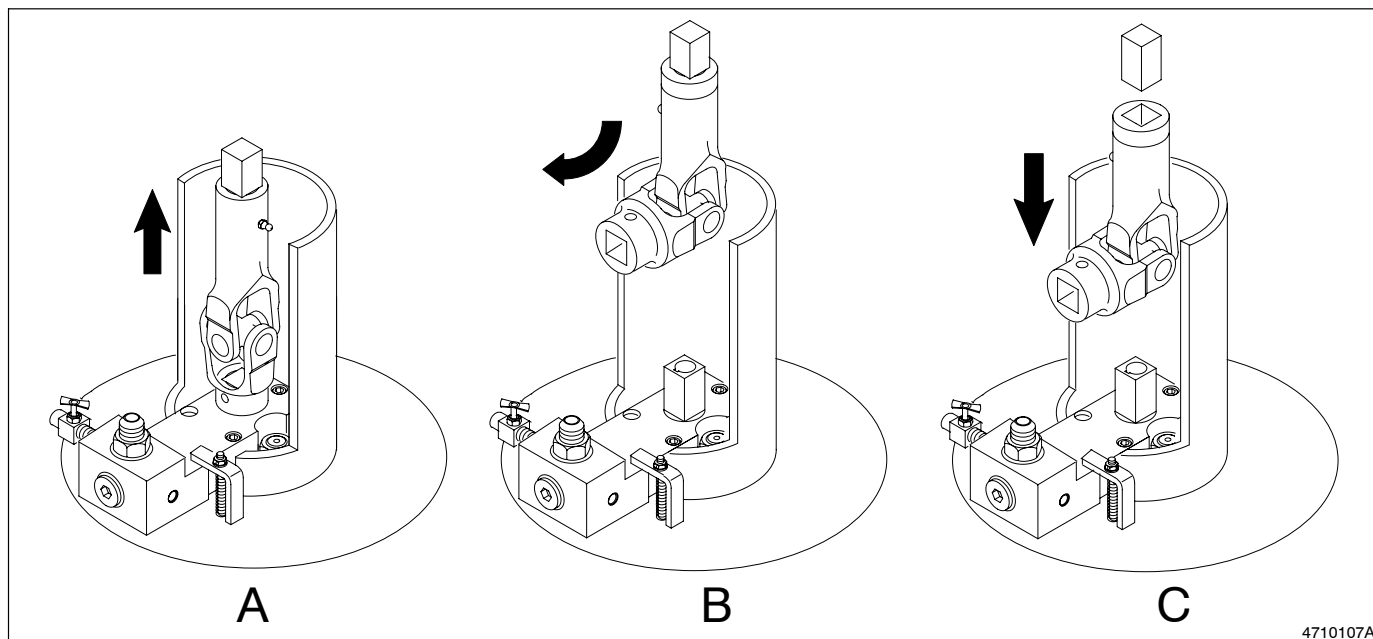

Fig. 7-17 Removing the Lower Yoke Assembly from the Driveshaft
10. See Figure 7-17. Loosen the lower yoke assembly set screw, lift the yoke assembly free of the pump shaft, and reposition the universal joint enough that the assembly can be removed from the driveshaft.